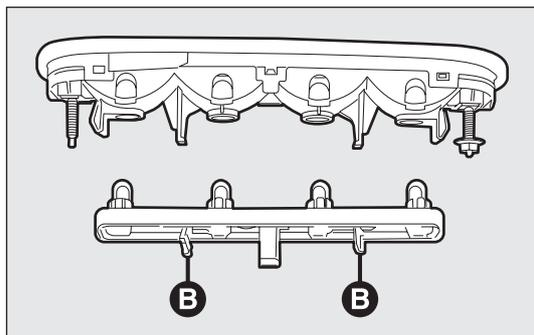

fig. 197
- press the tabs in the opposite direction B-fig. 197 and remove the bulb holder;